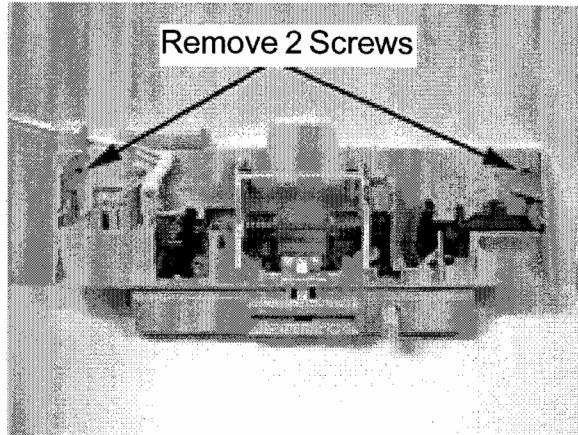

**Figure 2**
- The door locking mechanism was changed from a wax motor to a solenoid, resulting in faster locking and unlocking of the door. However, a wax motor is installed in the door lock mechanism for the sole purpose of unlocking the door in the event of a power failure. **Figure 2**
3. Locate the locking tab on the door latch hoop and pry the tab up. **Figure 2**